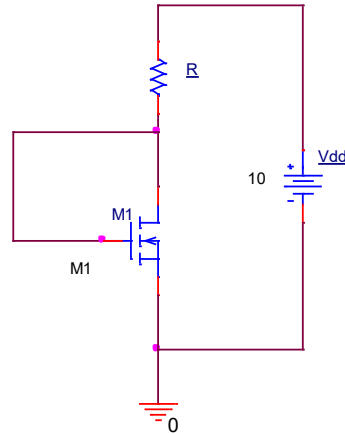

Figure 3: Diode connected MOSFET to establish reference current for current source
The circuit shown in Figure 3 has a diode-connected MOSFET. In previous labs, we have seen that this MOSFET operates in saturation region as its gate and drain terminals are tied together. To design this circuit for any required value of drain current, the required gate-to-source voltage is first calculated using,
2. When this MOSFET is to be used in circuit of Figure 3, calculate the required gate-to-source voltage and resistance to obtain 1mA drain current. Let,  $V_{DD}$  be 10V.
Table 2: Data-collection table for circuit shown in Figure 3